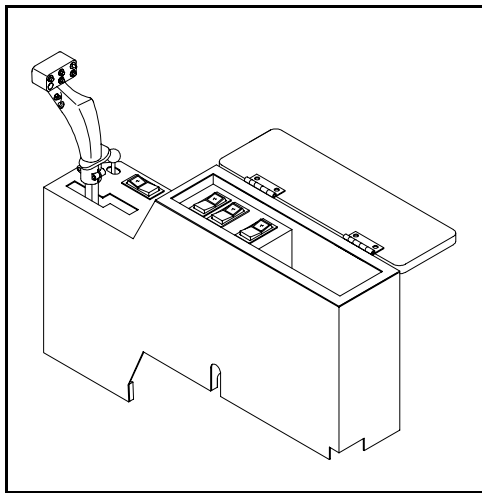
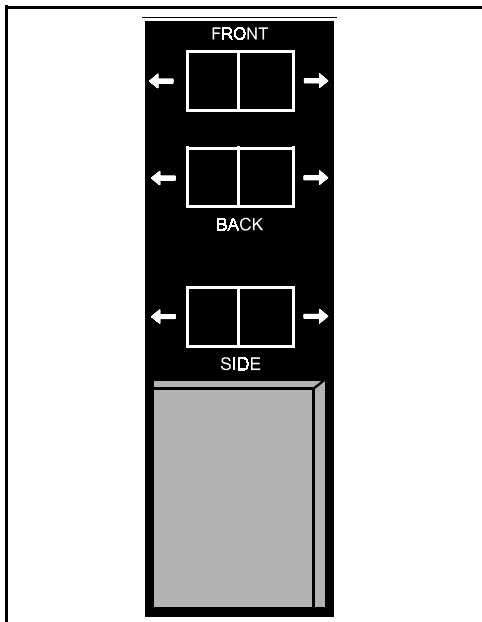

FIG 5.15
FIG 5.16
1. Locate switch panel under lid of seat-mounted console (fig. 5.15) and select the button marked "SIDE" (fig. 5.16). Depressing either side of the button will select the corresponding side of tread to be adjusted.